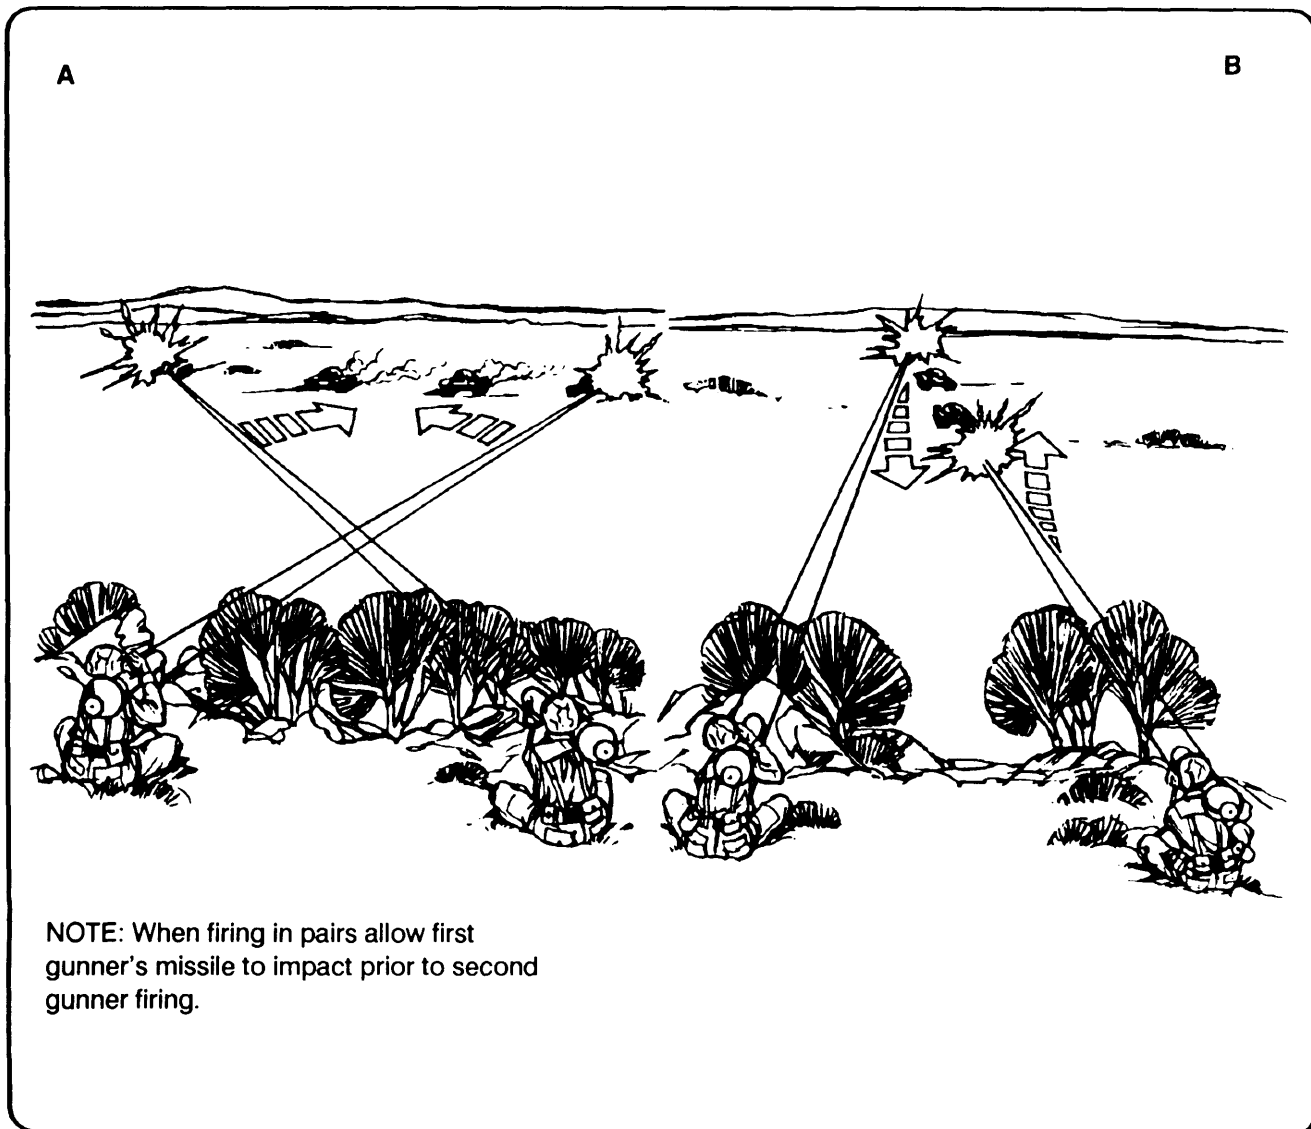

Figure 3-25. Fire patterns.
e. Fire Patterns. Fire patterns describe the relationship between firing Dragons and their targets. These patterns can be used in fire commands or fire plans, within the section or within the team. They can also be used with other control measures such as priority of fires. Two basic patterns are cross fire and depth free. (See Figure 3-25.)
used to obtain flank shots, which are desirable; it increases the chance of a kill and assists in avoiding detection when the enemy is moving straight at the Dragon. Each Dragon engages a target at a diagonal to its position, with flank Dragons engaging targets on the opposite flank. As targets are destroyed, fire is shifted to the center of the enemy formation. (See A, Figure 3-25.)
(2) *Depth fire*. Depth fire is used when targets are exposed in depth. Dragons on one side engage the nearest targets, while Dragons on the other side engage the farthest targets. Fire is then shifted toward the center of the formation. This can be done by unit SOP or as specified in the section leader's order. (See B, Figure 3-25.)
(3) *Changing or concurrent fire patterns.* Fire patterns are changed or used concurrently with another fire pattern. This may be necessary when the enemy adjusts his formation after being engaged to ensure maximum coverage of an enemy formation. (See Figure 3-25.)